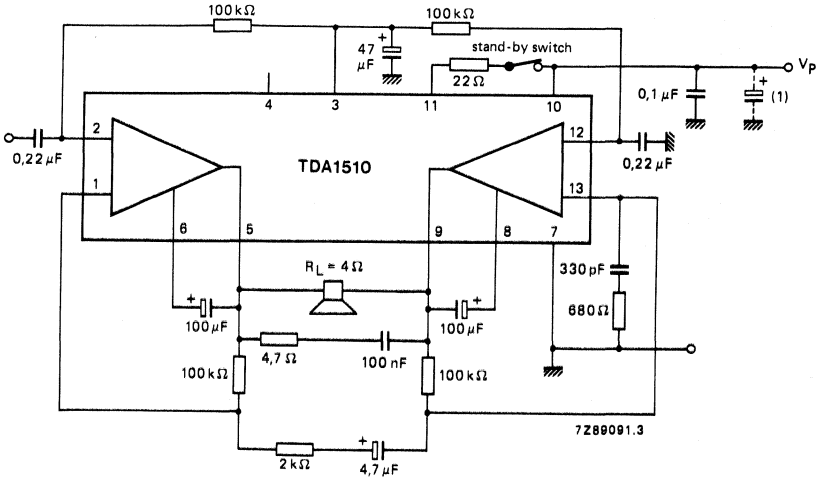

Fig. 3 Test and application circuit bridge tied load (BTL).
4. The input impedance in the test circuit (Fig. 3) is typ. $100 \text{ k}\Omega$.